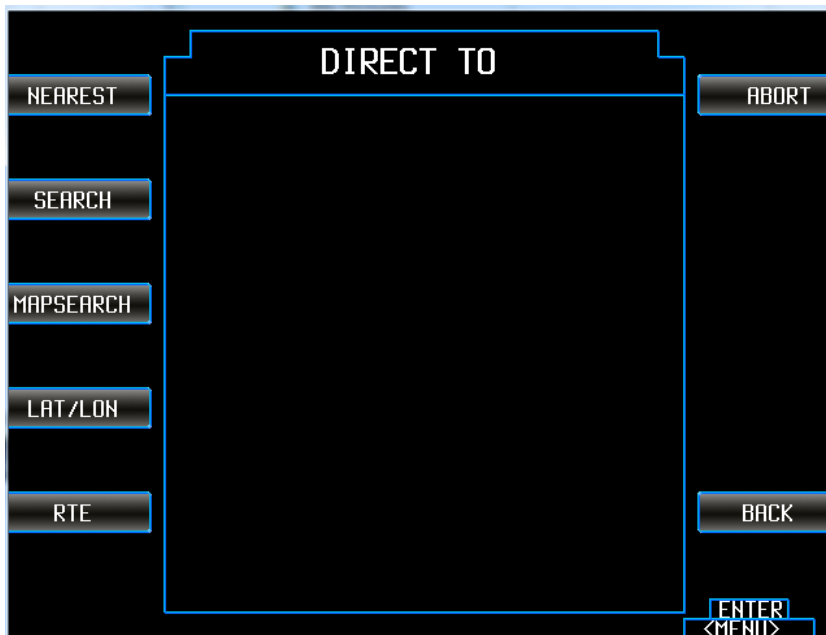
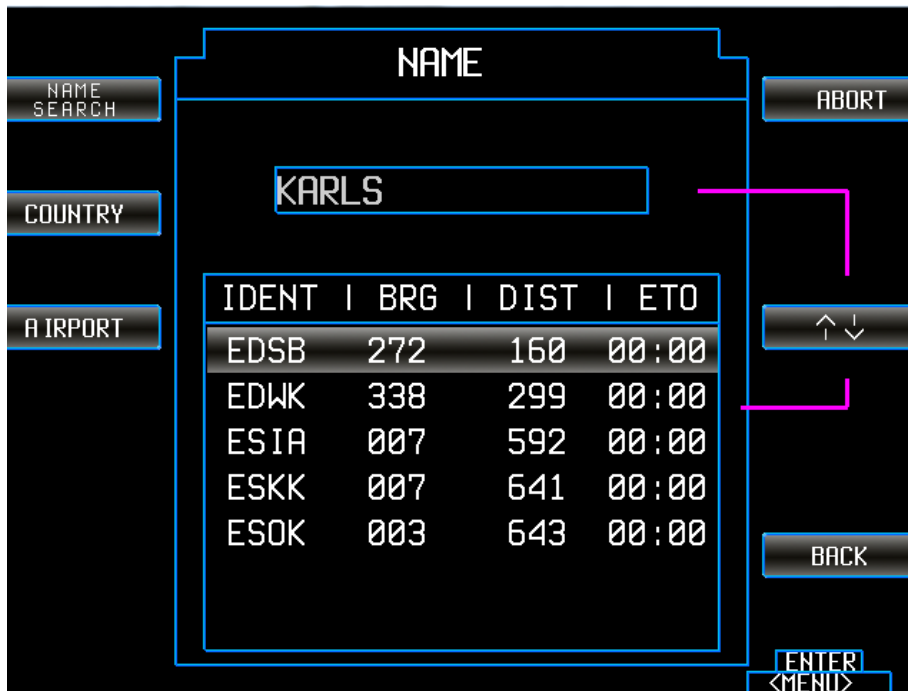

Figure 41: Direct-to "DCT", "RTE" - means planned routes are available
Figure 53: Direct-to "DCT", "SEARCH", "NAME SEARCH"
"SEARCH"	<p>Allow the selection of a waypoint by the identifier or the name.</p> <ul style="list-style-type: none"> <li>• Push the function key "SEARCH" in the Direct-to mask (Figure 41).</li> <li>• Select the function key for switching between "IDENTIFIER SEARCH" and "NAME SEARCH".</li> <li>• Remove a wrong character by pushing the function key "DELETE".</li> <li>• "COUNTRY" and "AIRPORT" you can reduce the number of search items (Figure 53). <ul style="list-style-type: none"> <li>○ "COUNTRY" – the search is reduced to countries.</li> <li>○ "AIRPORT" – the search is reduced to airports.</li> </ul> </li> </ul> <p>Here you will find the same search groups as already described in the chapter on NEAREST.</p>
- Push the function key "IDENTIFIER SEARCH" to switch to "NAME SEARCH" (Figure 53).
"RTE"	<p>Allow the selection of a waypoint from an activated route. This function is only available when a route is activated (Figure 41).</p> <ul style="list-style-type: none"> <li>"RTE" opens the activated route with the available waypoints of this route plan.</li> <li>Select a waypoint via the rotary-encoder and push the rotary-encoder to confirm the input.</li> </ul>